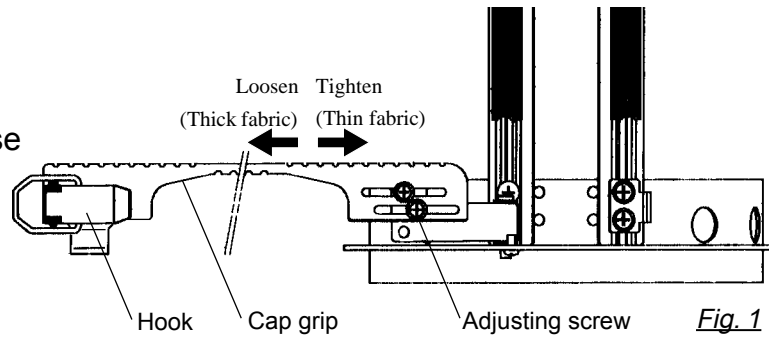

Fig. 1
1. Adjust the length of the cap grip to suit the thickness of the fabric. At this moment, hook should open and close without feeling heavy. (For the adjustment follow the next page "Hooping caps" item 1 to 5.) The adjustment to be done by two adjusting screws. (Fig. 1)